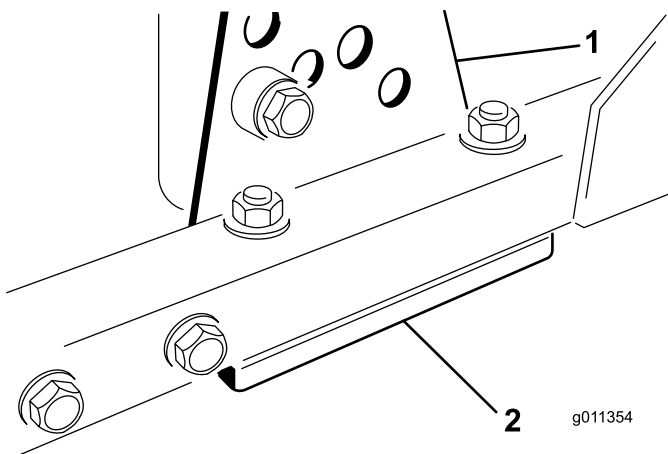

Figure 70
1. Remove the height-of-cut bracket, (front, left, or right) from the deck frame (Figure 70).
2. Adjust 1.5 mm (0.060 inch) shims and/or 0.7 mm (0.030 inch) shim between the deck frame and bracket to achieve the desired height setting (Figure 70).